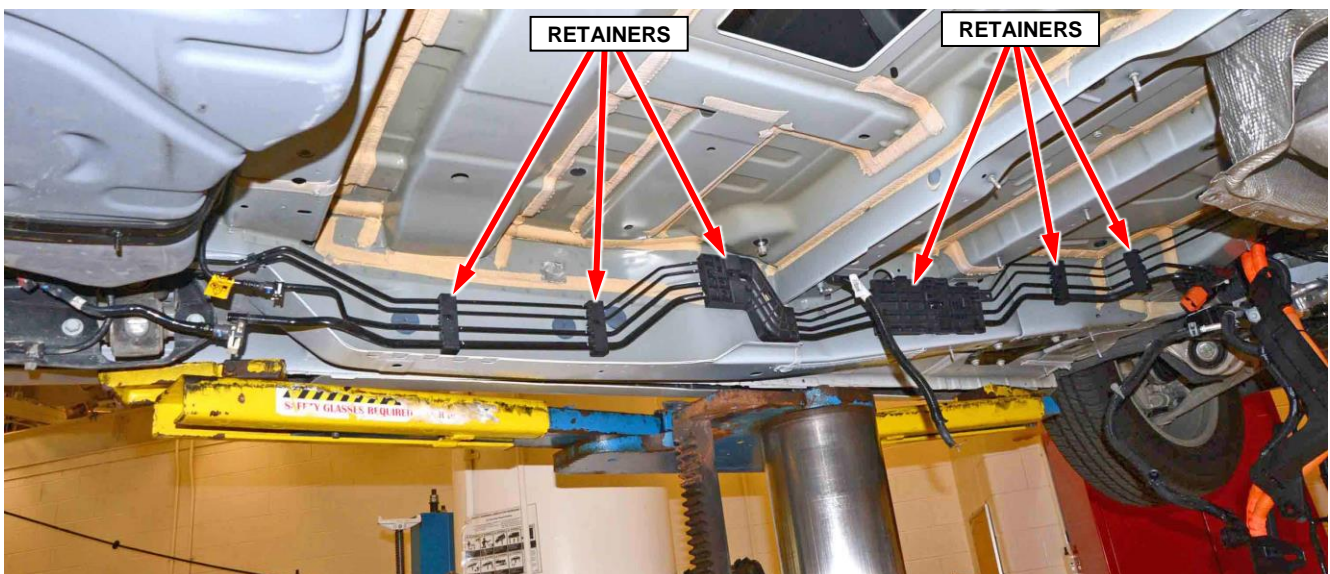
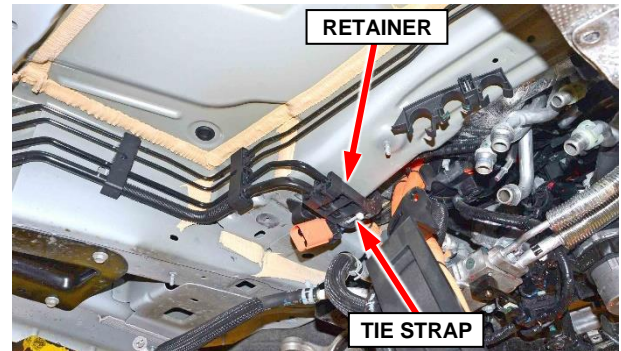

Figure 55 – Fuel Lines
Figure 56 – Fuel Lines Tie Strap
- 81. Release the fuel line retainers from the vehicle underbody then remove the fuel supply and return lines from the retainers (Figure 55).
82. Cut the cable tie strap securing the fuel lines to the front retainer. A replacement cable tie strap Mopar part number 04641780 or equivalent will be required during reassembly (Figure 56).
91. Install the fuel supply and return lines into all the retainers (Figures 55, 56, 57). A replacement cable tie strap Mopar part number 04641780 or equivalent will be required for retainer shown in (Figure 56).